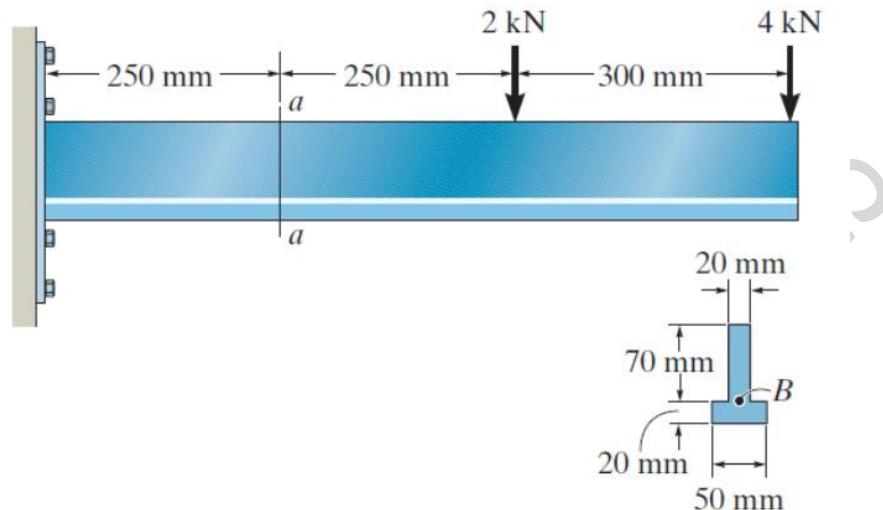

Figure Q4b
b) Determine the maximum shear stress acting at section a-a of the cantilevered strut shown in Figure Q4b